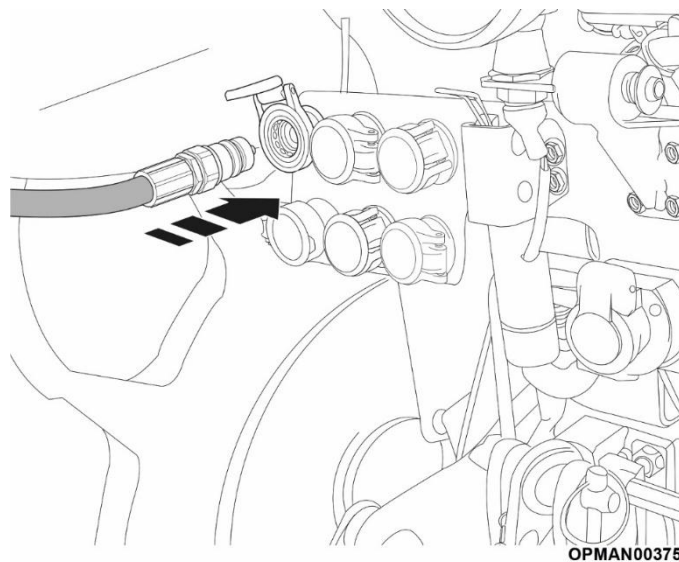

Figure 8
- 3.2.2.9 Connect the 4 hoses of the hydraulic system of the Mower to the appropriate services on the tractor (Figure 8) considering that: